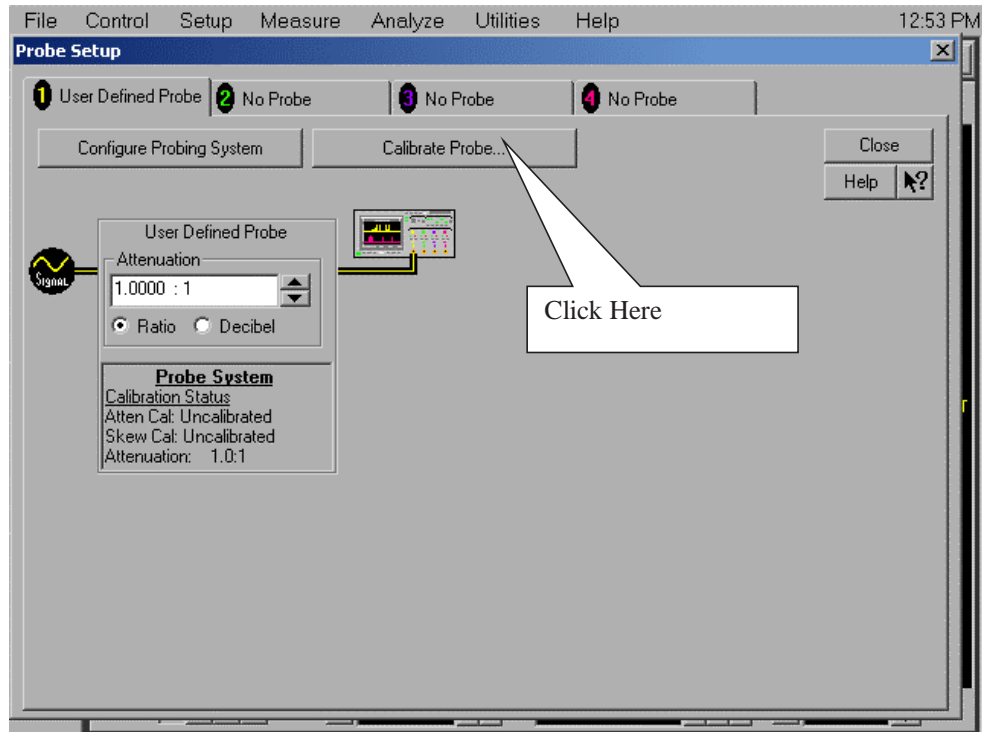

Figure 292 User Defined Probe Window.
- 4 Referring to Figure 292 below, perform the following steps: